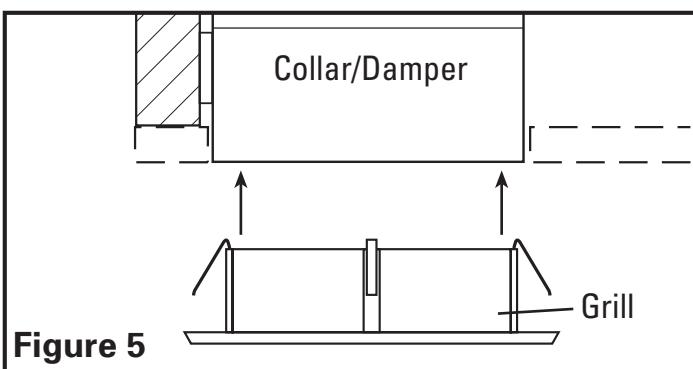

Figure 5
- Once the wall/ceiling material is in place, install the grill into the collar by pushing it firmly inward towards the collar until it fits flush against the wall/ceiling material (**Figure 5**).
- Install the grill into the collar by pushing it firmly inward towards the collar until it fits flush against the wall/ceiling material (**Figure 5**).